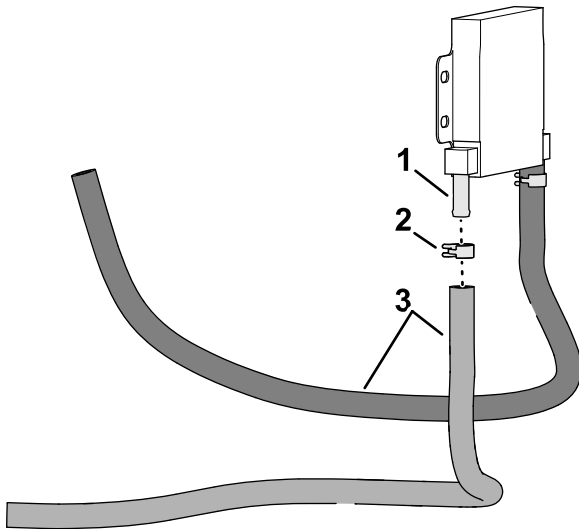

Figure 4
1. Assemble the 2 fuel hoses 9.5 x 559 mm (3/8 x 22 inches) into the fittings of the fuel cooler with the 2 spring-type hose clamps (Figure 4).